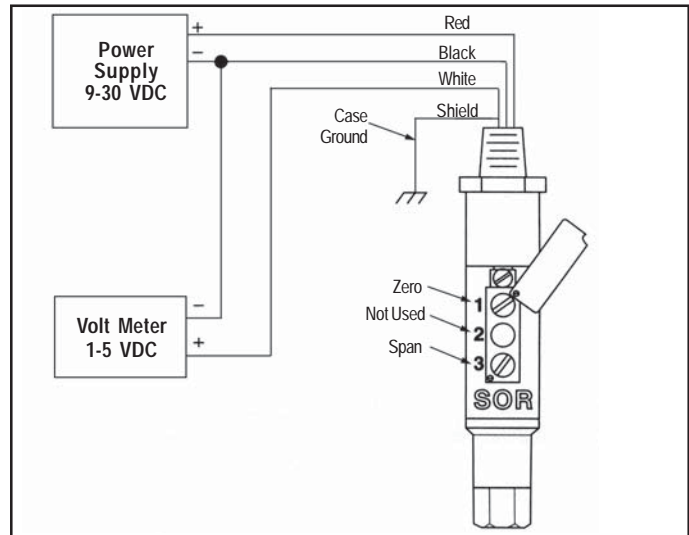

FIGURE 1
Two calibration screws (zero and span) are located underneath the adjustment cover. (See Figure 1.) Loosen the cover screws slightly (do not remove) and rotate the cover to reveal the adjustment screws.
A pressure source with a calibrated reference gage, a voltmeter and a DC voltage supply are required. (See figure 1.) Note the adjustable range on the instrument nameplate. For both zero and span adjustments, turn the adjustment screw clockwise to increase, counterclockwise to decrease.
1. Connect the transmitter as shown in Figure 1.